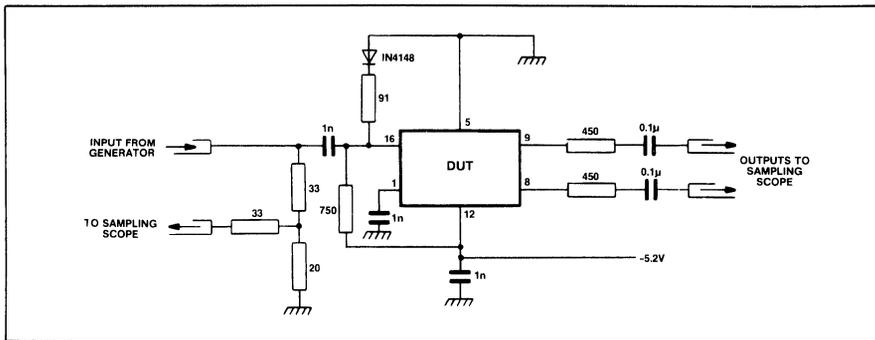

Fig.6 Test circuit
1. The clock and control inputs are ECL III compatible. There is an internal pull-down resistor to  $V_{EE}$  of 4.3k on each input and therefore any unused input can be left open circuit. If it is desirable to capacitively couple the signal source to the clock then an external bias is required as shown in Fig. 6. The external bias voltage should be -1.3V at 25°C.